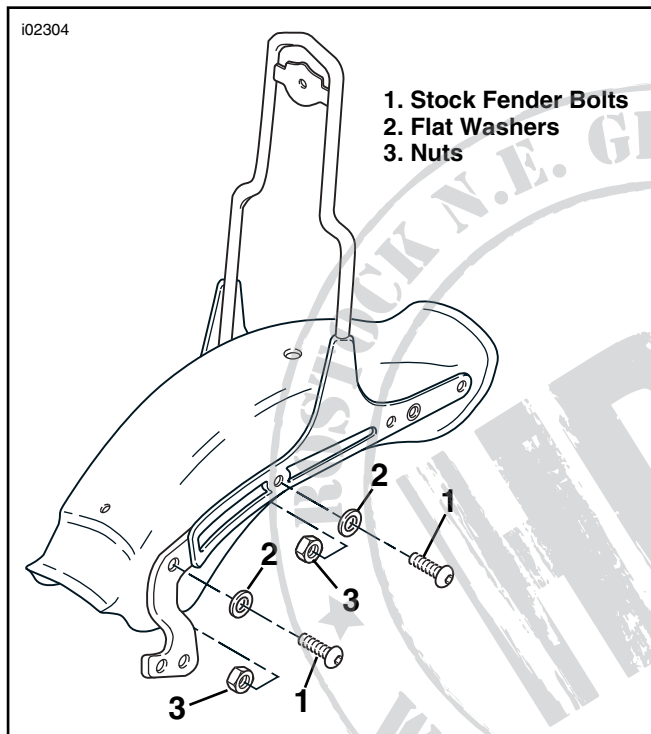

Figure 3. Fender Hardware Removal, 2000 Through 2002 FXST, FXSTB, FXSTS
1. See Figure 3. Remove the two forward rear-fender bolts (1), washers (2) and nuts (3) on one side of the vehicle. Discard the bolts, but save the nuts and washers for re-use.